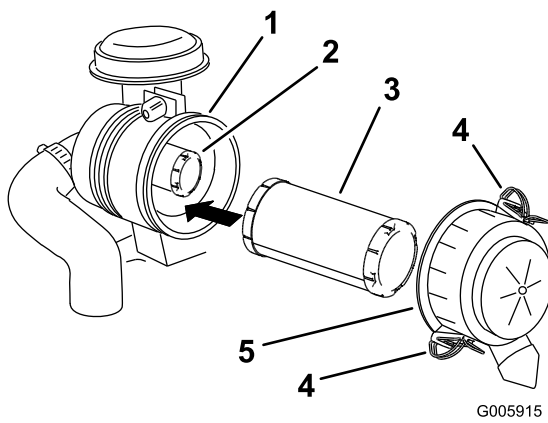

Figure 49
3. Release the latches on the air cleaner and pull the air cleaner cover off the air cleaner body (Figure 49).
5. Gently slide the primary filter out of the air cleaner body (Figure 49).
2. If the inner filter is being replaced, carefully slide it into the filter body (Figure 49).
3. Carefully slide the primary filter over the inner filter (Figure 49).
5. Secure the cover with the latches (Figure 49).